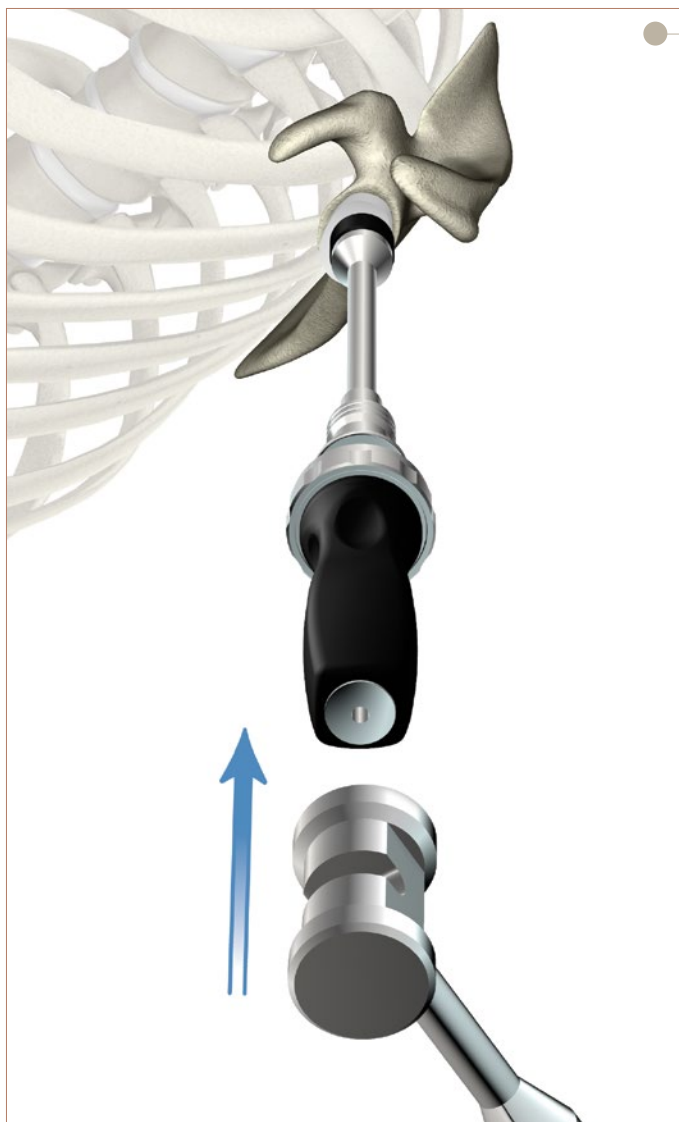

Figure 58
- ▶ When a glenoid is used, the joint line is lateralized so this additional space should be accounted for when selecting the humeral head implant's thickness (Figure 58).